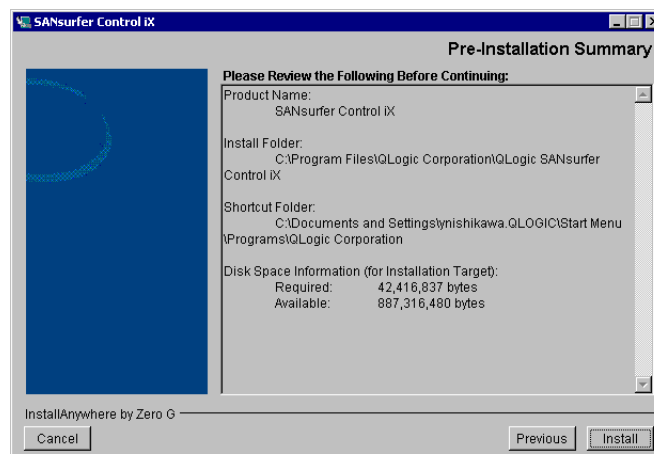

Figure 6-5. Pre-Installation Summary Dialog Box
7. The **Pre-installation Summary** dialog box displays (see figure 6-5). If the information is not correct, click **Previous** to back-track and make the appropriate changes. If the information is correct, click **Install**.